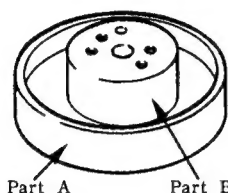

Fig. 1-7.
- Hold the drum by the upper part (Part B), do not touch the side of the drum (Part A) directly. See Fig. 1-7.